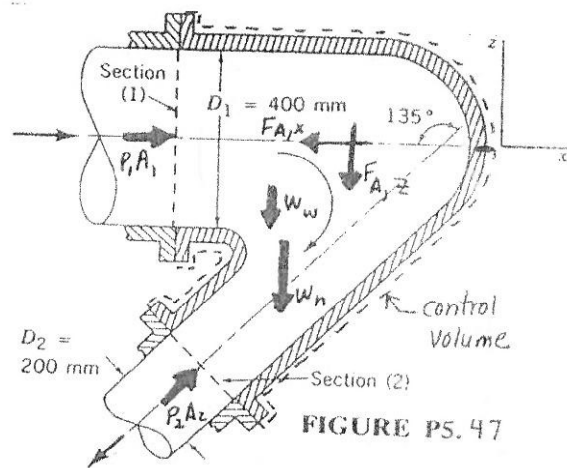

FIGURE P5.47
5.47 A converging elbow (see Fig. P5.47) turns water through an angle of  $135^\circ$  in a vertical plane. The flow cross section diameter is 400 mm at the elbow inlet, section (1), and 200 mm at the elbow outlet, section (2). The elbow flow passage volume is  $0.2 \text{ m}^3$  between sections (1) and (2). The water volume flowrate is  $0.4 \text{ m}^3/\text{s}$  and the elbow inlet and outlet pressures are 150 kPa and 90 kPa. The elbow mass is 12 kg. Calculate the horizontal (x direction) and vertical (z direction) anchoring forces required to hold the elbow in place.